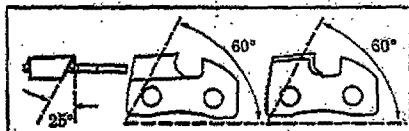

Figure 32
- f.) File chain to meet specifications shown in Figure 32.
Maintain the proper hook angle according to the manufacturer's specification for the chain you are using. Too much hook angle will increase the chance of kickback which can result in serious injury. Figures 32 & 34.